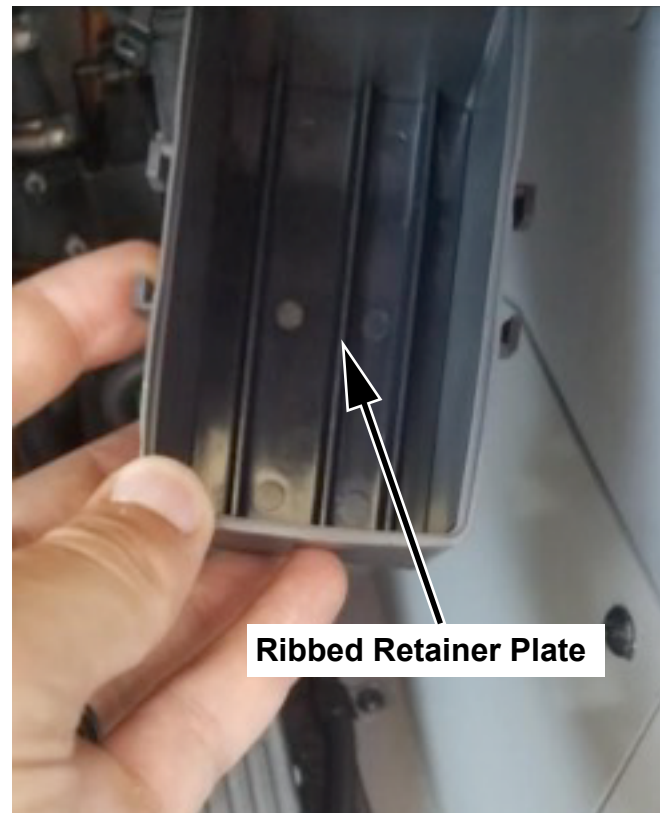

Figure 3
4. Press the ribbed retainer plate onto the inside top of the fuse box cover. The tall rib should be over relay not fuses (see Figure 3).